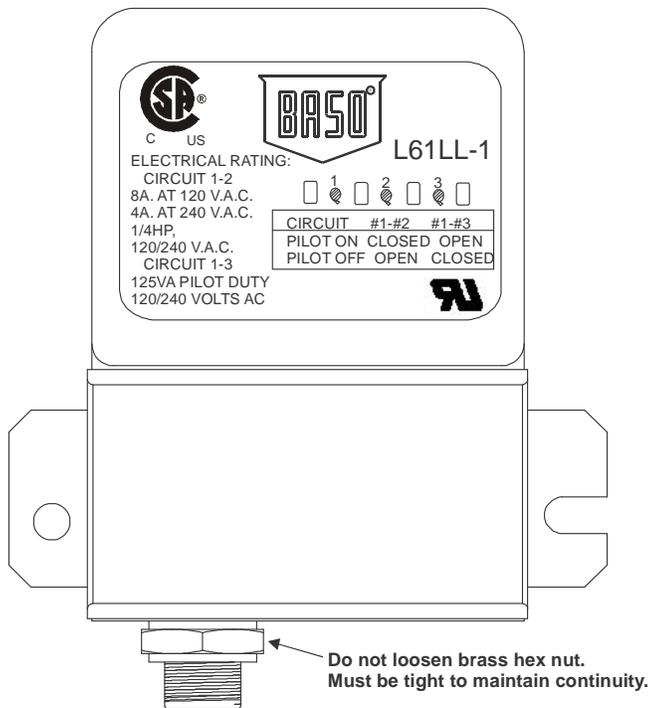

Figure 1: L61LL Product Label
5. Push the circuit wires through the conduit opening on the bottom of the L61LL, strip the ends of the wires just enough to put the bare wire under the terminal screws, and connect the circuit wires according to the appliance manufacturer's instructions or the wiring information on the label (see Figure 1).